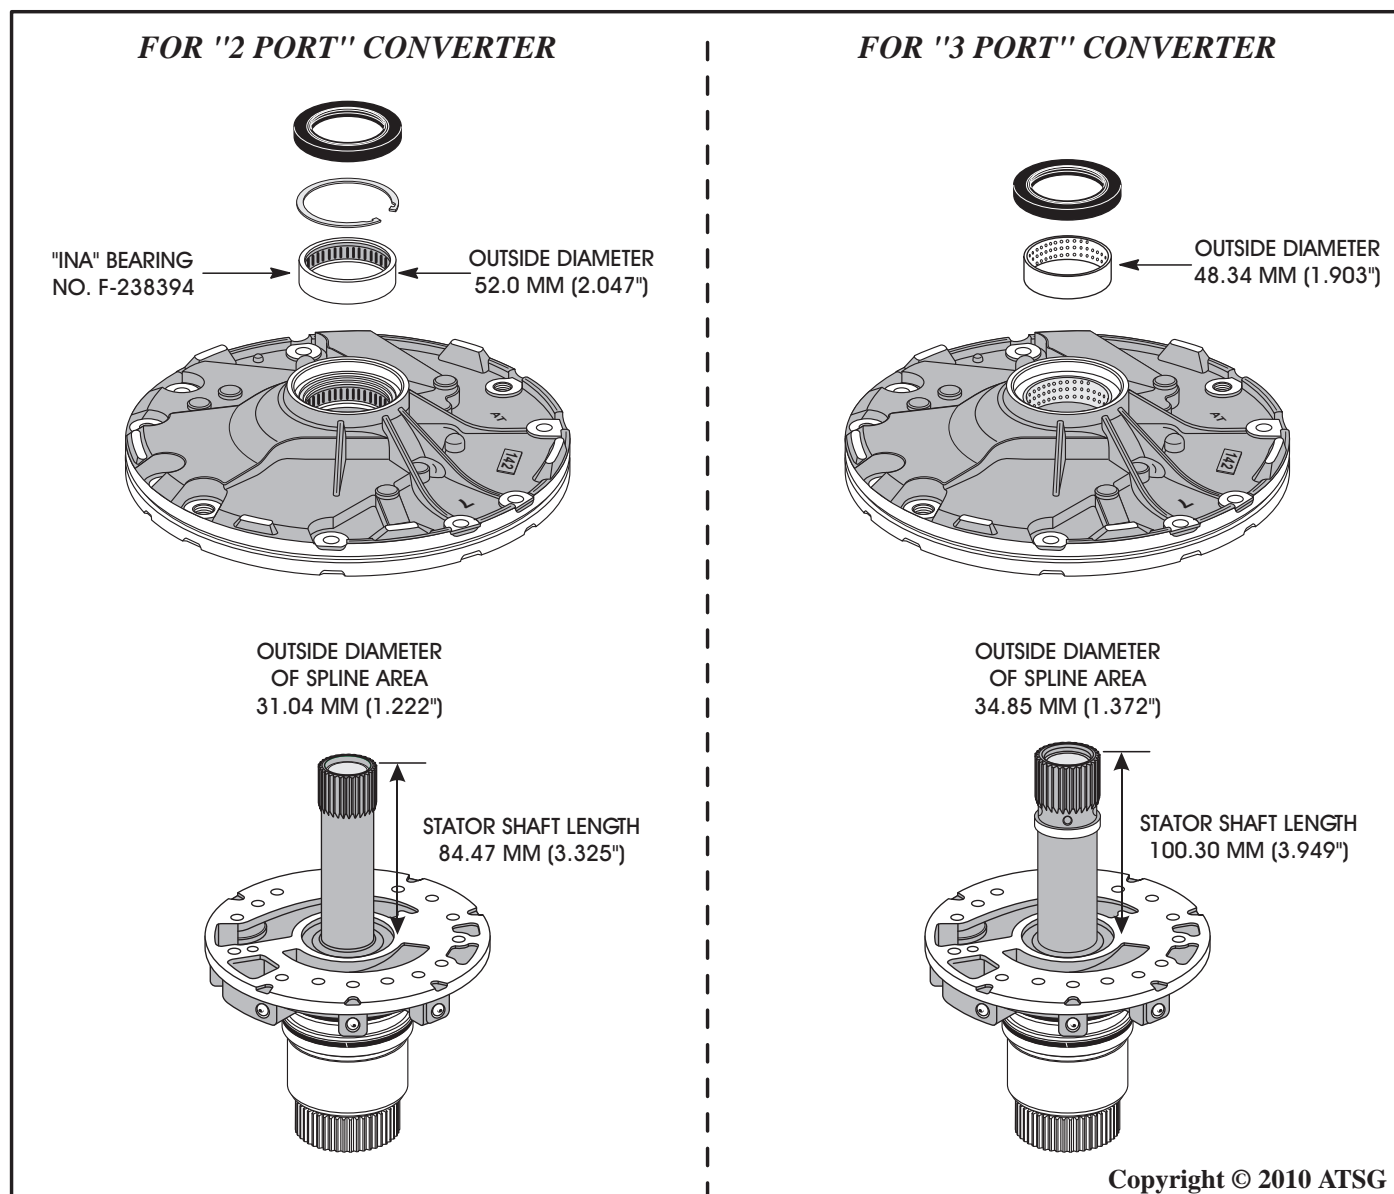

Figure 154
4. Again, as a precaution, we are showing you the difference in the oil pump parts between the "2-Port" and "3-Port" torque converters in Figure 154.
*Note: Everything in the oil pump assembly is the same, except for what is illustrated in Figure 154.*